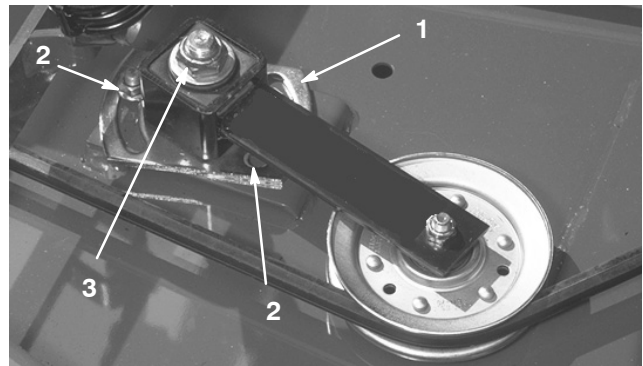

Figure 35
3. Loosen the 2 nuts securing the idler plate in place. Using a socket and torque wrench, tighten the idler adjusting nut to 35–40 ft.-lb. (47 to 54 N-m) (Fig. 35).